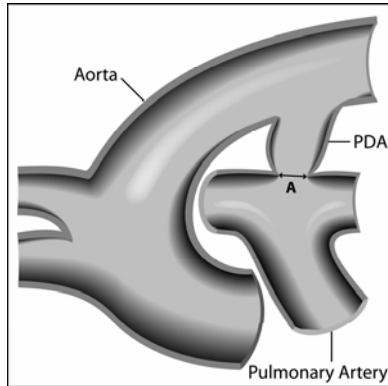

Figure 2. Ductal anatomy with measurement (A) indicating the diameter of the pulmonic ostium of the ductus. Device selection is based on this measurement.
- Size of ductus (see Figure 2).
Success of transcatheter PDA closure with the Amplatz Canine Duct Occluder is contingent on an accurate measurement of ductal anatomy. Although echocardiography can visualize a PDA, the spatial resolution of this imaging modality is insufficient to properly size the device. Device selection is determined by the diameter of the pulmonic ostium of the PDA as measured by arteriography (Figure 2). A device should be selected with a waist diameter that is at least 1.5 times the size of the pulmonic ostium of the PDA as measured by arteriography.